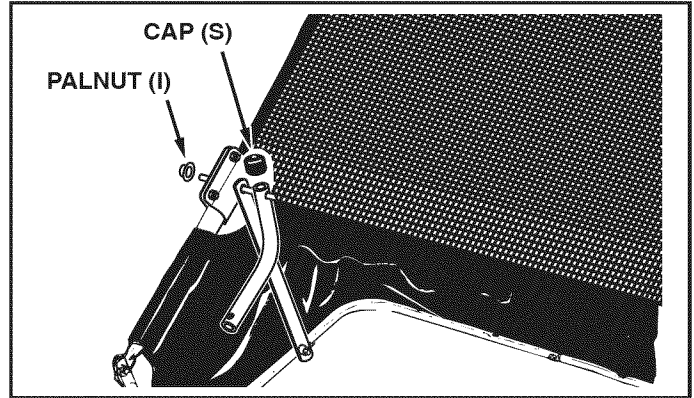

FIGURE 16
- Assemble a vinyl cap (S) onto each bag arm tube as shown in figure 16.
- Assemble two palnuts (I) onto the ends of the pivot rod using a hammer. See figure 16.